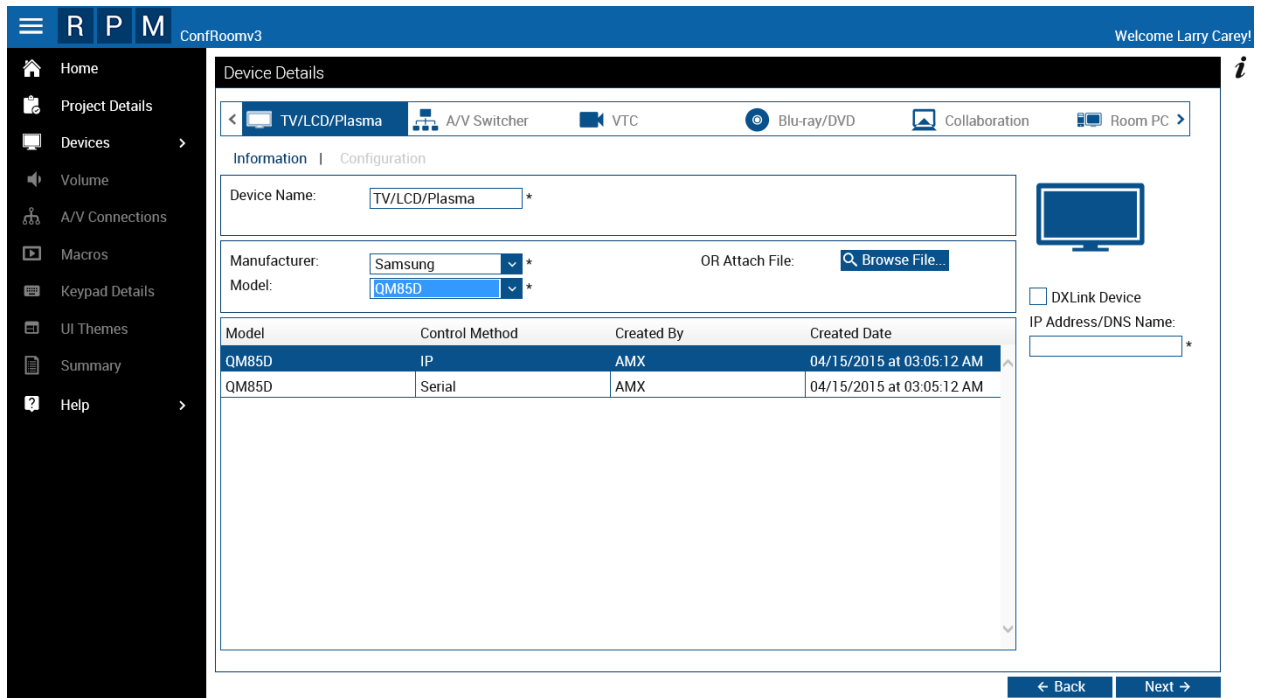

FIG. 26 Sample Device Details page (TV/LCD/Plasma)
5. Click **Next** to proceed to the first of a series of *Device Configuration* pages. Each device that is included in the system is configured via its own page. The pages and the options presented on these pages depend on the devices included in the system (see FIG. 26 on page 21).
- Click **Next** to proceed to the first *Device Details* page. Use the options on this page to configure each device. The pages and options presented are based on the devices included in the system. Click **Next** to save changes and proceed through each device in the system. An example Device Details page (for a TV/LCD/Plasma device) is shown in FIG. 26: